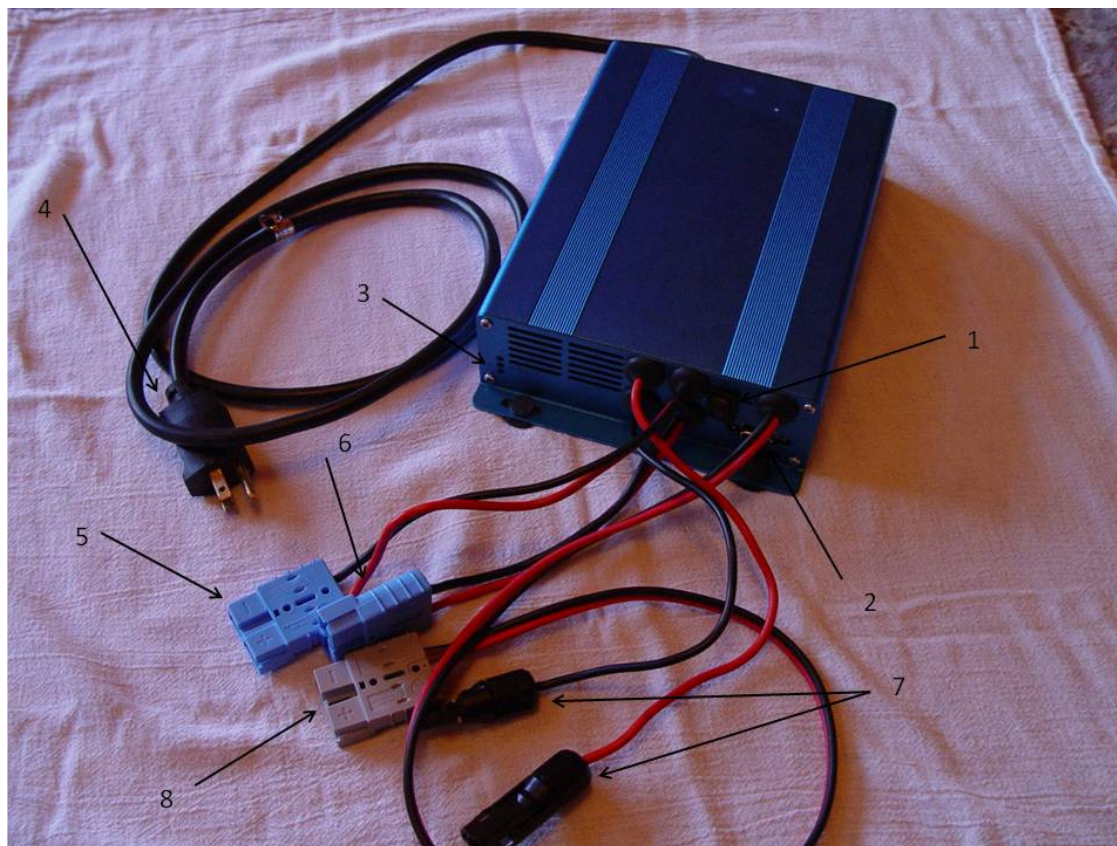

Fig. 1
The Components (Fig. 1):
1. Connect the Battery(s) (Banks) to Blue connectors (Fig. 1, 5 and 6). *****CAUTION***** OBSERVE THE CORRECT POLAIRITY WHEN PLACING THE CABLES ON THE BATTERY'S.
2. Connect one of the power source possibilities (Fig. 1, 4 or 7).
3. (Optional), Connect a 15A or less load to the Grey connector (Fig. 1, 8)
Connecting a Serial Cable to the Terminal connector (Fig. 1, 2) and with a PC / Laptop running HyperTerminal, the operation information can be displayed to the terminal screen. Configure Hyper terminal for 19200, 8, N, 1 and make a connection. Start “The Switcher” as described earlier in this manual and observe the Terminal screen. Hyper terminal also has a logging feature that can be used to store information during the charging process.